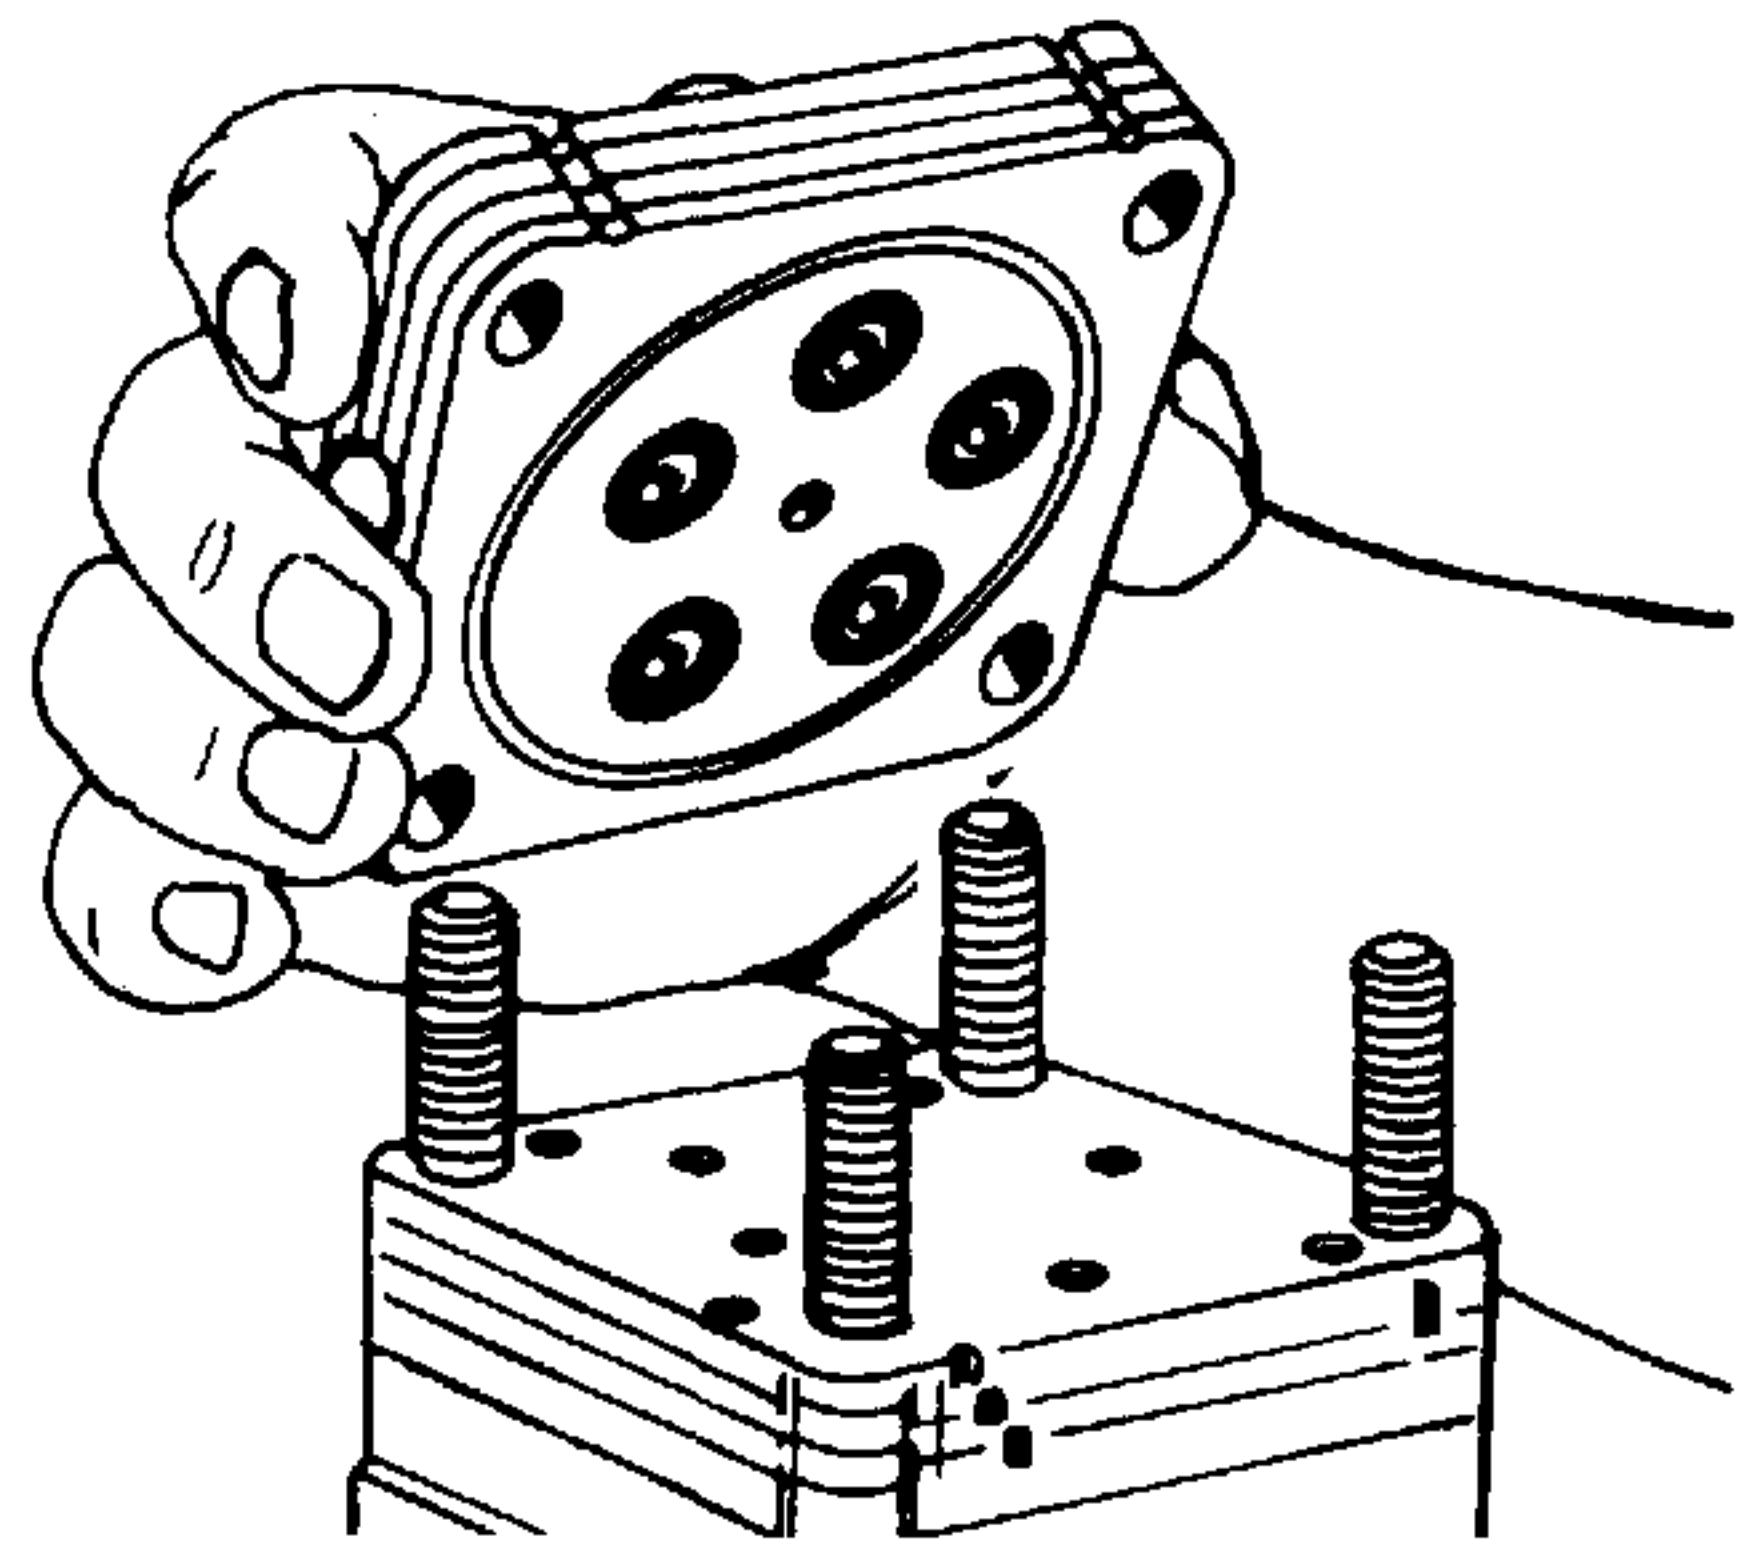

Figure 4-9. Removing Power Cylinder Cover.
3. Grasp the power cylinder cover (2, Figure 4-1) assembly (four plates bonded together) and lift it from the unit. Discard the four or five O-rings (5) and seal ring (4). See Figure 4-9.